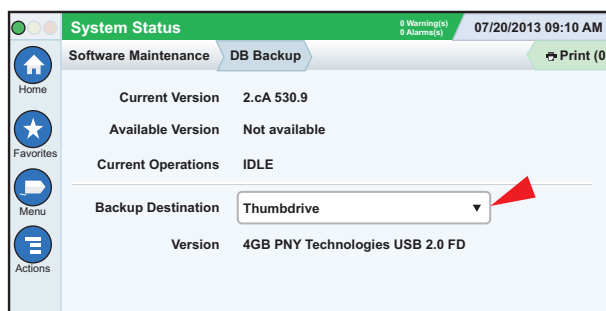

Figure 1. DB Backup Screen
1. From the Home Screen touch **Menu > Software Maintenance > DB Backup** to view the Database Backup Screen (see Figure 1). Touch the down arrow in the Backup Destination field to select the Backup thumb drive, then follow the on-screen instructions to backup TLS-450PLUS console data.